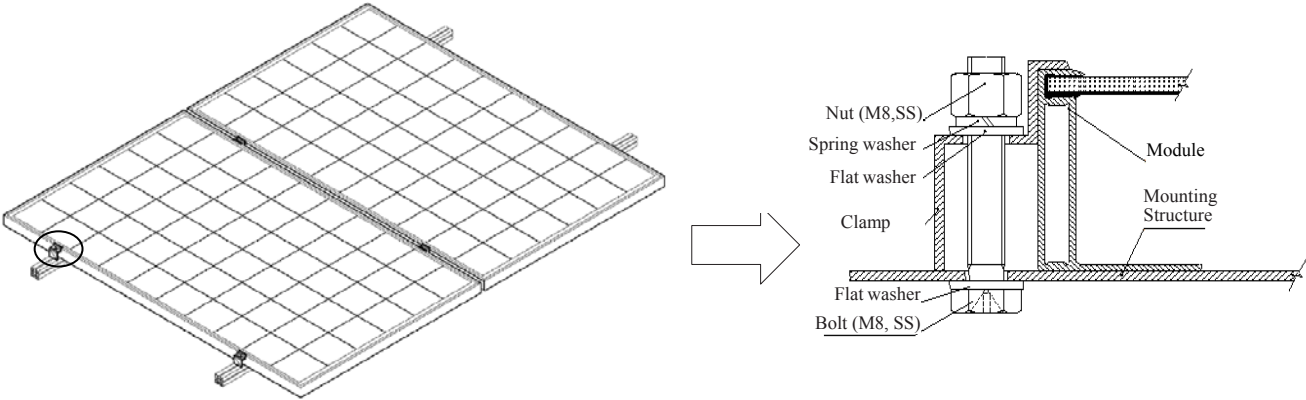

Figure 2 Mounting clamps
- Clamping system: use proper clamp, and fix the module with the installation support, as shown in Fig. 2.